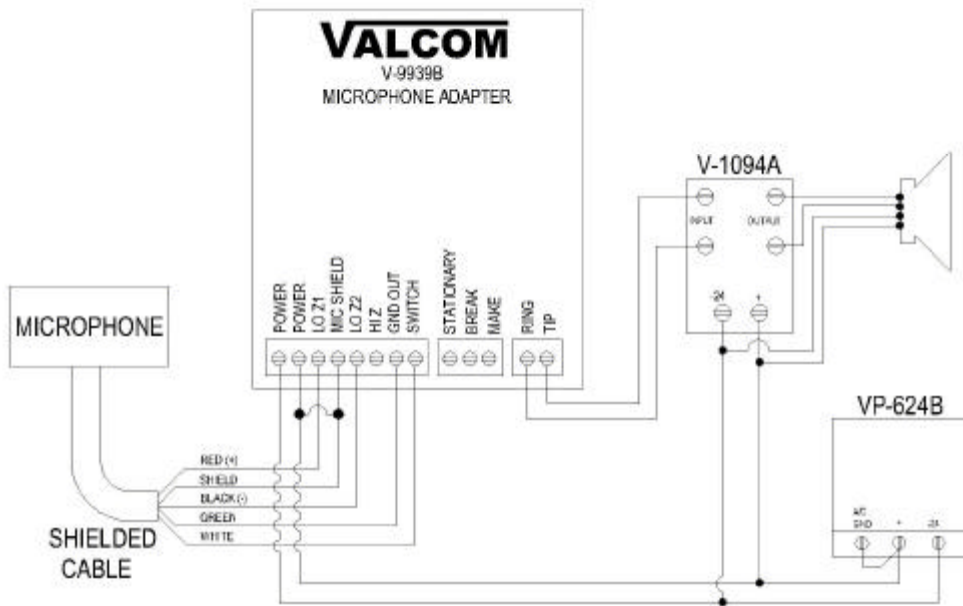

FIGURE 3 – STAND ALONE PAGE SYSTEM
- ___1. Stand alone page system: Proceed to Figure 3.
WIRING INSTRUCTIONS (For Figure 3)